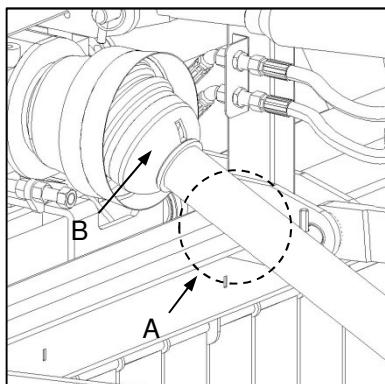

Fig. 2
- ✓ Following installation of the PTO shaft, lift the implement to an acceptable transport height and operate the hitch offset facility to both extremities of its travel. Ensure that there is no contact between the PTO shaft and any part of the implement (Fig. 2-A / 3-A).
- ✓ Ensure that universal joint operating angles (Fig. 2-B / 3-B) are not exceeded and that over-compression or over-extension of the PTO shaft is avoided.